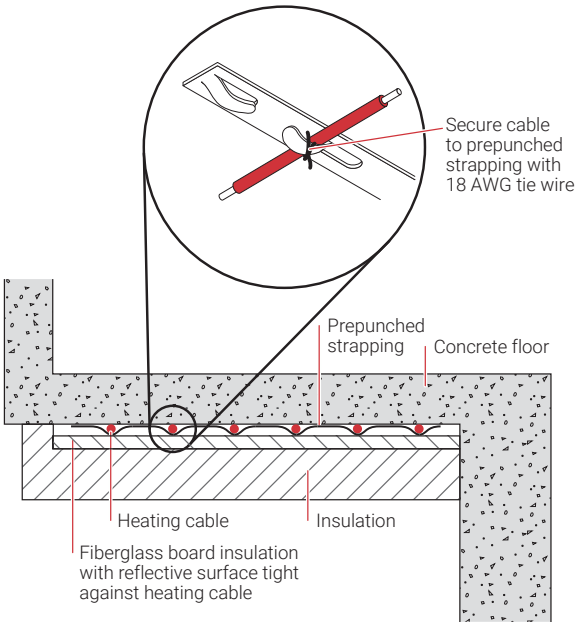
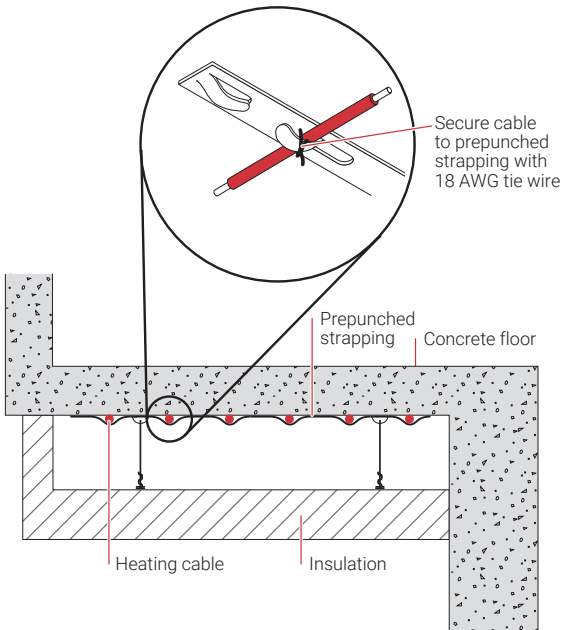
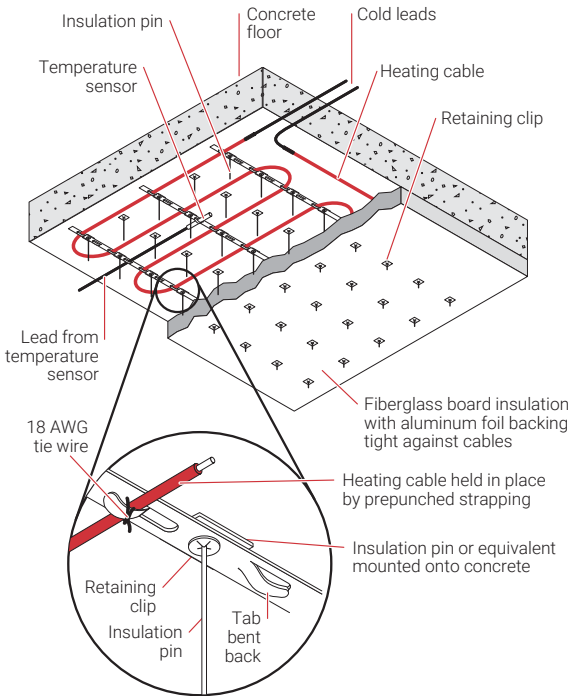

Figure 17: Heating cable held in place by rigid floor insulation
Figure 18: Heating cable when equipment space is below the floor
Figure 19: Rigid insulation held in place using insulation pins
1. a) Using foil backed fiberglass board rigid insulation to hold the cable in contact with the floor. The heating cable is fastened in place with prepunched strapping and tie wire as shown in Figure 17. If necessary, the fiberglass board insulation may be held in place with insulation pins as shown in Figure 19.
b) When there is equipment space below the floor, the heating cable is secured to the bottom of the floor and the insulation is supported by a drop ceiling below the equipment (Figure 18).
3. Attach prepunched strapping to the bottom of the concrete floor on approximately 30 in (76 cm) centers, perpendicular to the intended runs of heating cable. If using insulation pins or equivalent to secure the insulation (Figure 19), install the insulation pins over the entire area to be heated in accordance with the manufacturer's recommendations, prior to installing the prepunched strapping (pins must be in straight rows to allow installation of the prepunched strapping).
4. Lay out the heating cable in a serpentine pattern at the predetermined spacing as specified in the design requirements (see Section 2.10). Use the clips on the prepunched strapping to hold the cables in place and secure the cable to the strapping using #18 AWG tie wire or equivalent (Figure 17 and Figure 18). This will prevent the cable from coming loose from the pre-punched strapping as it expands and contracts during the heating and cooling cycles.
Insufficient insulation will increase heat loss from the floor and may lead to lower floor temperatures. The insulation type and thickness should be shown in the design specifications. If the insulation is being used to hold the heating cable to the floor (Figure 17 and Figure 19), use rigid fiberglass board insulation with a foil backing on one side and ensure that the insulation is supported so that all points along the heating cable circuit are firmly in contact with the bottom of the floor. Contact nVent if other types of insulating materials have been specified.